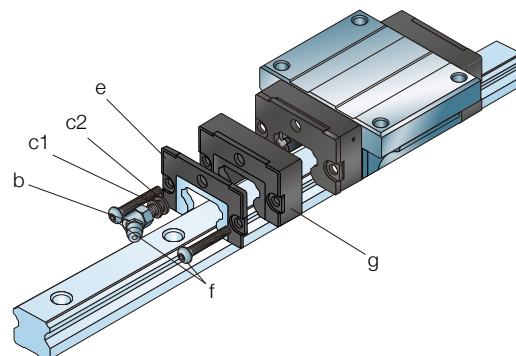

Fig. 31
1. Remove grease nipple (b) and washers (c1, c2) or the set screw (→ fig. 31)